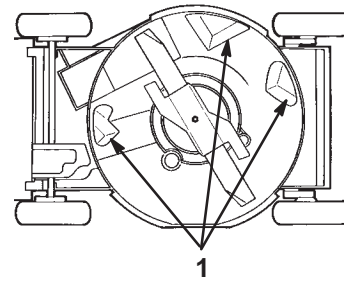

Figure 13
Keep the underside of the lawn mower housing clean. Be especially careful to keep the kickers free of debris (Fig. 13).
3. Tip the lawn mower onto its **left** side with the air filter up (Fig. 13).